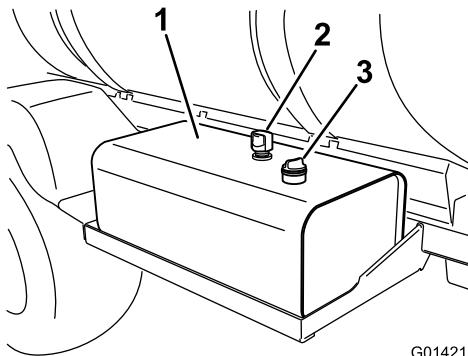

Figure 102
2. Clean the area around the hydraulic-fluid-tank dipstick cap and remove it (Figure 102).